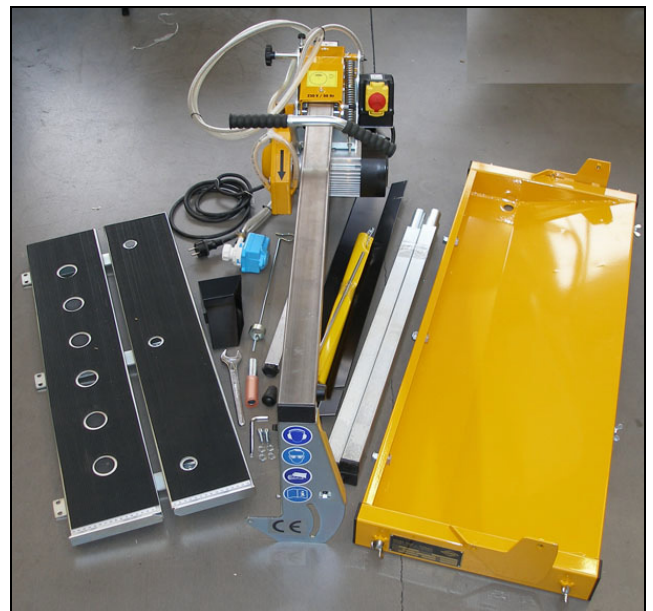

Fig. 1.3 CTS•26 L, disassembled for transport
- The plug-in feet, hinged rail and work table can be disassembled (Fig. 1.3), thereby allowing the saw blade to be transported easily to other storeys or onto scaffolds.